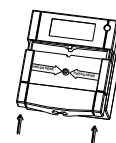

Fig. 7: Replacing the front face
5. Clip the front face onto the body (see Fig. 7).